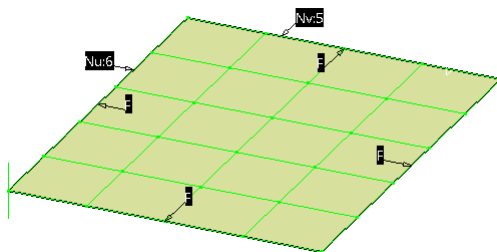

Figure 18-58 The surface after choosing the Control Points tool
- Select the planar patch on the surface and then choose the **Control Points** tool from the **Shape Modification** toolbar; the surface is displayed, as shown in Figure 18-58. Also, the **Control Points** dialog box is displayed, as shown in Figure 18-59.